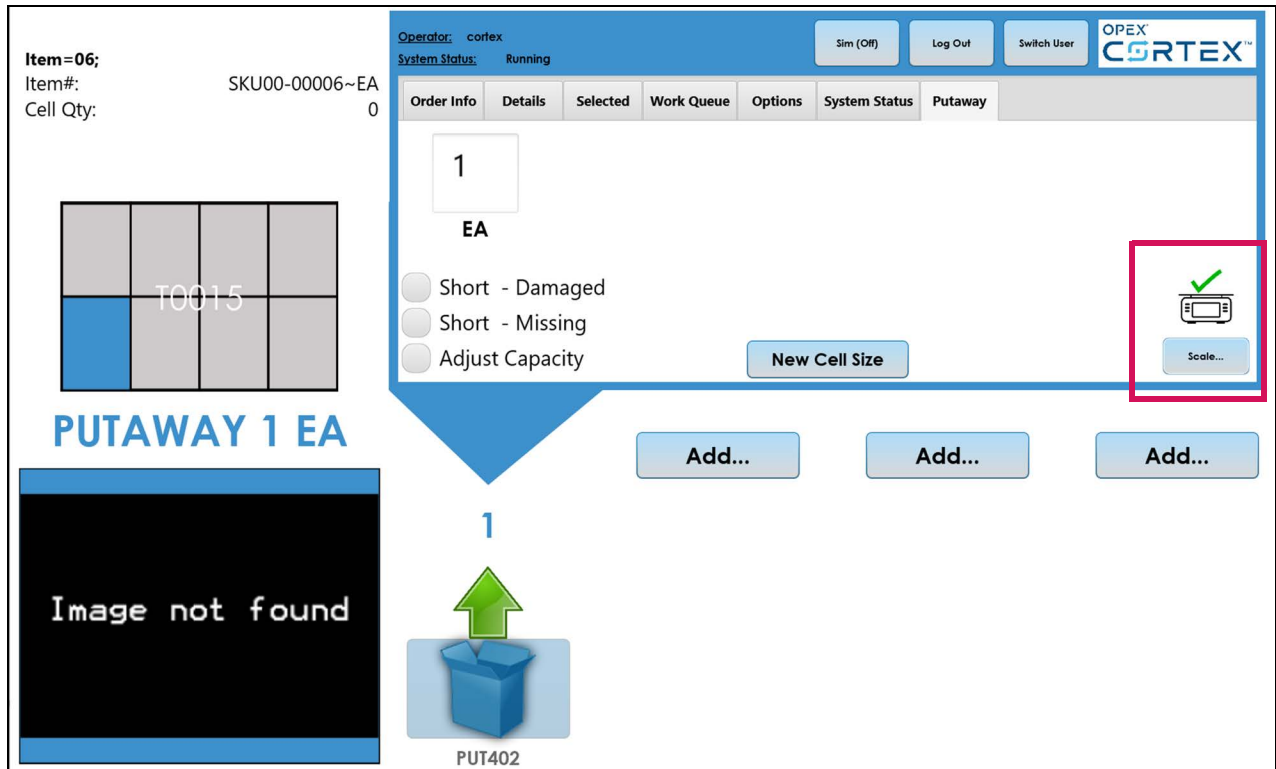

Figure 2-5: Scale icon check mark
6. To close the **Scale - Capture** window, press **Close**. The WUI work tab displays the check mark above the scale icon (Figure 2-5) to indicate the confirmed piece weight.